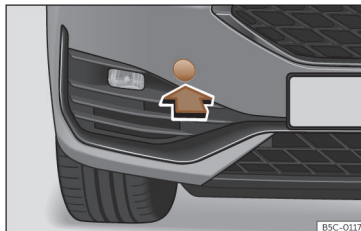

Fig. 47 On the right side of the front bumper: remove the cover.
The housing of the screw towing eye is on the right side of the front bumper behind a lid»» **Fig. 47**.
- Remove the cover by pressing down on its base and leave it hanging from the vehicle »» **Fig. 47**.